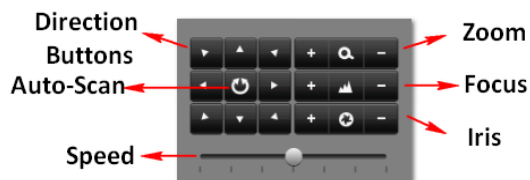

Figure 130 PTZ Controls Button
4. Using the Directional buttons and other PTZ control buttons (Zoom +/-, Focus +/-, the speed of the PTZ movement), test the functionality of the PTZ camera. If PTZ camera and protocol supports it, you may also click the Auto-Scan button to test its function. PTZ controls buttons are shown in **Figure 130**.